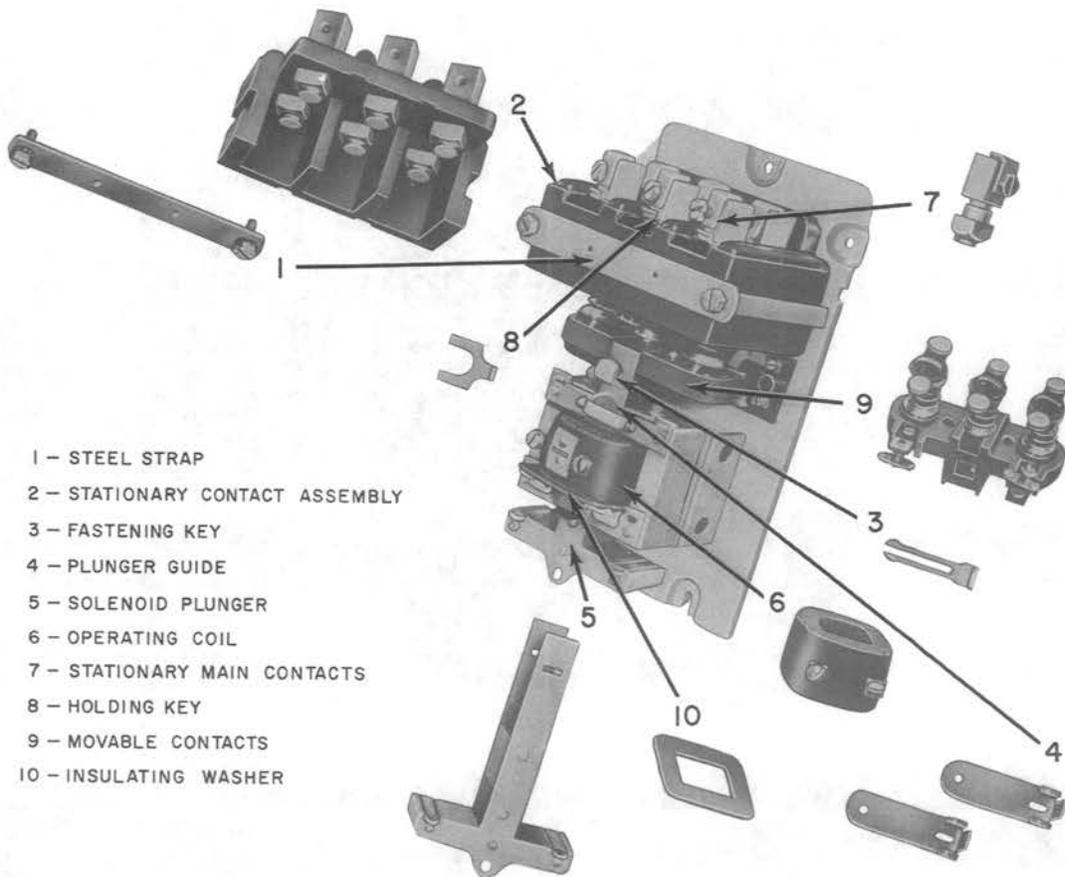

Fig. 5—General Construction of KS-5770, KS-15841, KS-15861 Starters—KS-5770 Illustrated
(9) To obtain access to the main contacts, remove the steel strap (1) and slide out the contact assembly. The stationary main contacts (7) can be removed individually for replacement by removing the associated key (8) and rotating the contact. To remove movable contacts, press down, rotate 90 degrees, and withdraw. If the contacts fail to meet the requirements for freedom of buildups, they may be smoothed with the burnisher or with 150-grade abrasive cloth while the contact assembly is removed from the starter. See Fig. 5.